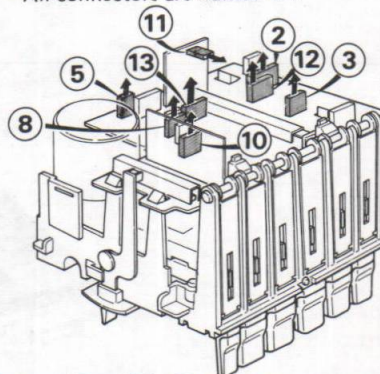

Fig. 4
- 1) Remove mounting screw (9) (Refer to Fig. 4)
- 2) Disconnect 8 connectors (Nos. 2, 3, 5, 8, 10, 11, 12, 13). (Refer to Fig. 4)